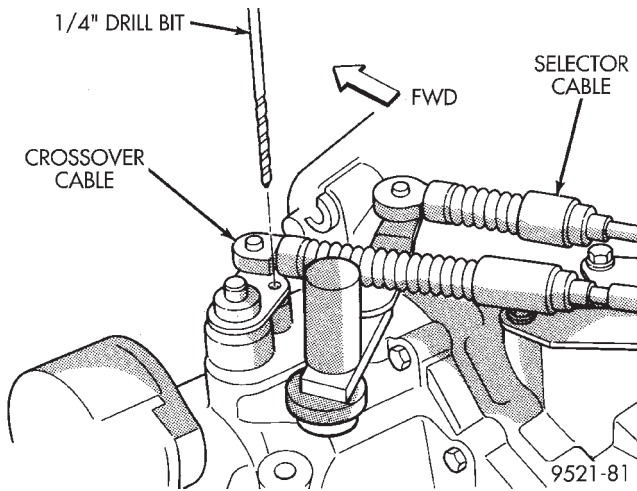

Fig. 150 Crossover Lever Pin Procedure
- (3) Pin transaxle crossover lever in 3-4 neutral position using a 1/4 inch drill bit. Align hole in crossover lever with the hole in the boss on the transaxle case (Fig. 150). Make sure drill bit goes into transaxle case at least one half inch.
- (4) The shifter is spring loaded and self centering. Allow shifter to rest in its neutral position. Torque